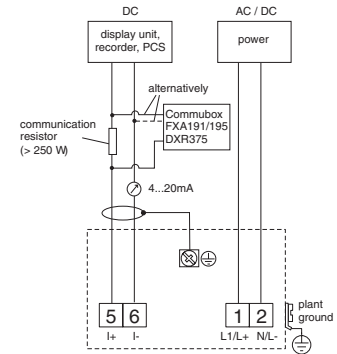

Fig. 9: Terminal assignment - 4-wire, AC/DC power, 4-20mA with HART.
- On the 4-wire versions (Levelflex and Prosonic), there are two terminals situated at the front of the electronic module (see fig. 9).